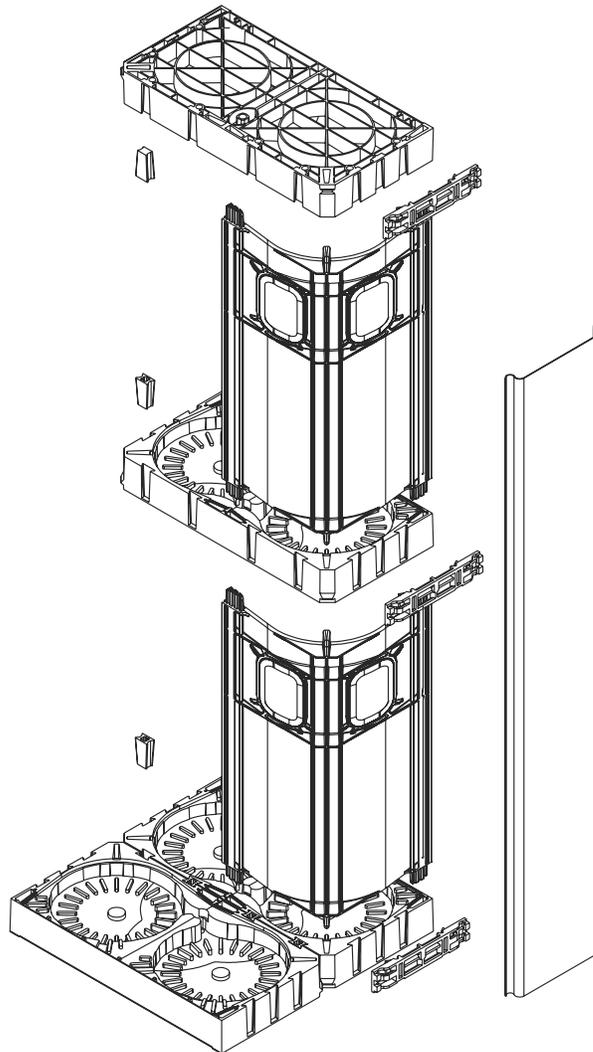

Figure 4-29: Stand Assembly
15. For spill containment applications the top most tier of bases (not supporting batteries) must be installed with the cell cavities facing down (see Figure 4-29). Dovetail keys require being installed into each base before being assemble on top of the stand. Starting at one end of the stand, the dovetail keys should be inserted into the first base on two adjacent sides. Each successive base only requires one side to have dovetail keys to be installed.